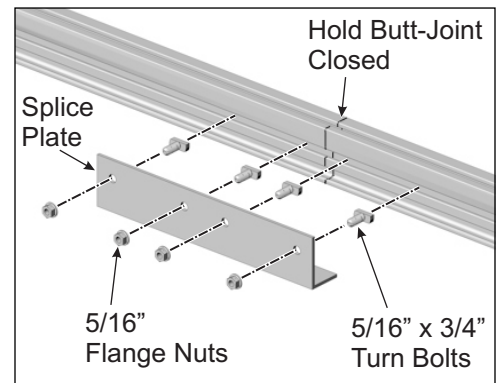

Figure 7-1: Splice Plate Installation
- A. Position the southern Power Rail to the north side of the Rail-to-Rail brackets with the Power Rail profile in the same orientation shown in Figure 7-1.